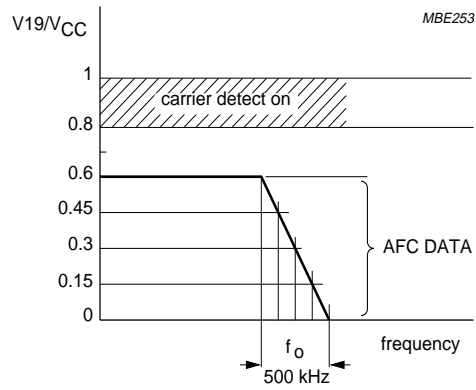

Fig.3 AFC and carrier detector output.
2. This typical value of $-70\text{ ppm}/^{\circ}\text{C}$ or $-70 \times 10^{-6}\text{ }^{\circ}\text{C}^{-1}$ can be found in the reference measuring set-up shown in Fig.3. The temperature drift may be adjusted by the temperature coefficient of the external capacitor in the tank circuit.
11. The outputs from the AFC and carrier detector are combined at pin 19 (see Fig.3). During search tuning, when the input frequency is outside the capture range, the combined output (carrier detector function) is at a LOW level (any voltage below $0.6V_{CC}$). When the PLL becomes locked, the voltage at pin 19 rises to a HIGH level ($V_{19} = 0.8V_{CC}$ to V_{CC}). When the input channel is close to the centre frequency, V_{19} falls to the LOW level. As shown in Fig.3, the voltage at pin 19 is now a function of the centre frequency (AFC function). This information may be read by a microcontroller via the ADC of the satellite frequency synthesizer (TSA5055) and the I²C-bus.